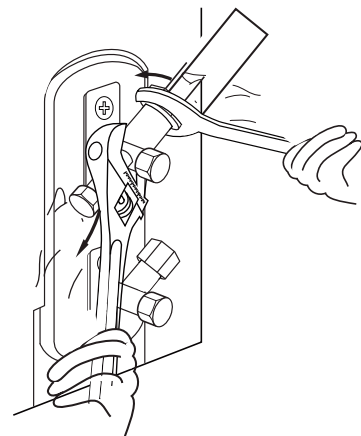

Fig. 7.8
5. While firmly gripping the nut on the indoor unit tubing with the spanner, use a torque wrench to tighten the flare nut (**Refer to Fig. 7.8 below**). Continue tightening the flare nut until the specified torque rating in the table below (based on pipe size) is achieved. Then, loosen the flare nut slightly and tighten it again to the specified torque rating.